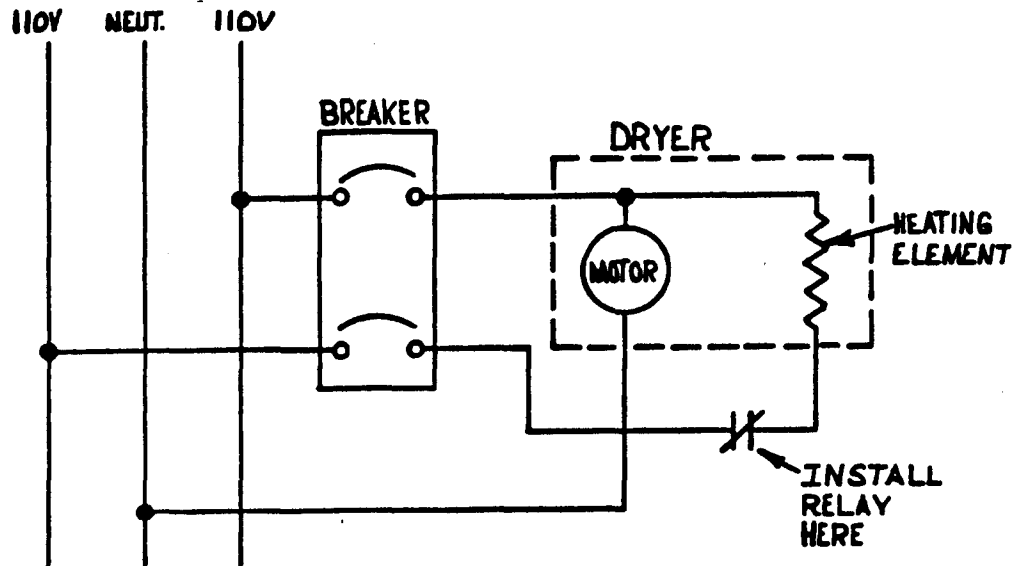

Figure 7
2. The dryer is connected to the breaker panel as shown in FIG. 7. Both wires are connected to a 30 Amp, 220 VAC double pole breaker.
3. The relay is inserted in series on the heating element side of the load only as shown in FIG. 7. The motor of the dryer is NOT connected. Care must be taken to insure that the dryer is connected properly since improper connection MAY damage dryer.